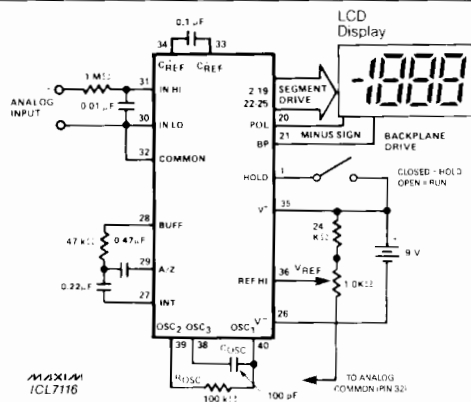

Figure 1. Maxim ICL7116 Typical Operating Circuit, 200mV Reference
- Note 3:** Unless otherwise noted, specifications apply to both the 7116 and 7117 at TA = 25°C, fClock = 48kHz. 7116 is tested in the circuit of Figure 1, 7117 is tested in the circuit of Figure 2.
( $V^+ = 9V$ ,  $T_A = 25^\circ C$ ,  $f_{CLOCK} = 48kHz$ ; test circuit - Figure 1 (ICL7116), Figure 2 (ICL7117) unless noted)
**Note 7:** Test condition is  $V_{IN}$  applied between pins IN-HI and IN-LO, i.e., 1M $\Omega$  resistor in Figures 1 and 2.
**Note 11:** 1M $\Omega$  resistor is removed in Figures 1 and 2.
however, the display latch pulse is inhibited, and the display latches are not updated. The Hold input has a 70 kilohm pulldown resistor to Test (ICL7116) or Ground (ICL7117) and the Hold input will be pulled low if it is left open. When Hold is low the ICL7116/ICL7117 updates the display at the end of each conversion. The Hold input is CMOS compatible, and can also be driven by a switch connected to  $V^+$  (Figure 1 and 2) or by a PNP transistor.